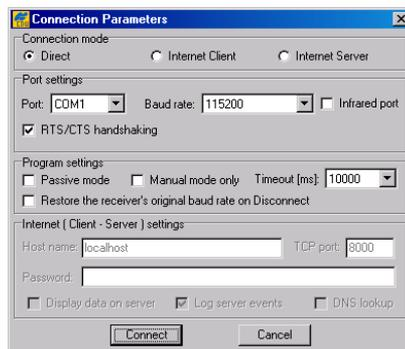

Figure 1-1. Connection Parameters
Once PC-CDU is launched, the *Connection Parameters* dialog box displays (Figure 1-1).
4. Click **Connect**. See Figure 1-1 on page 1-5 for an example of the *Connection Parameters* dialog box for this connection type.